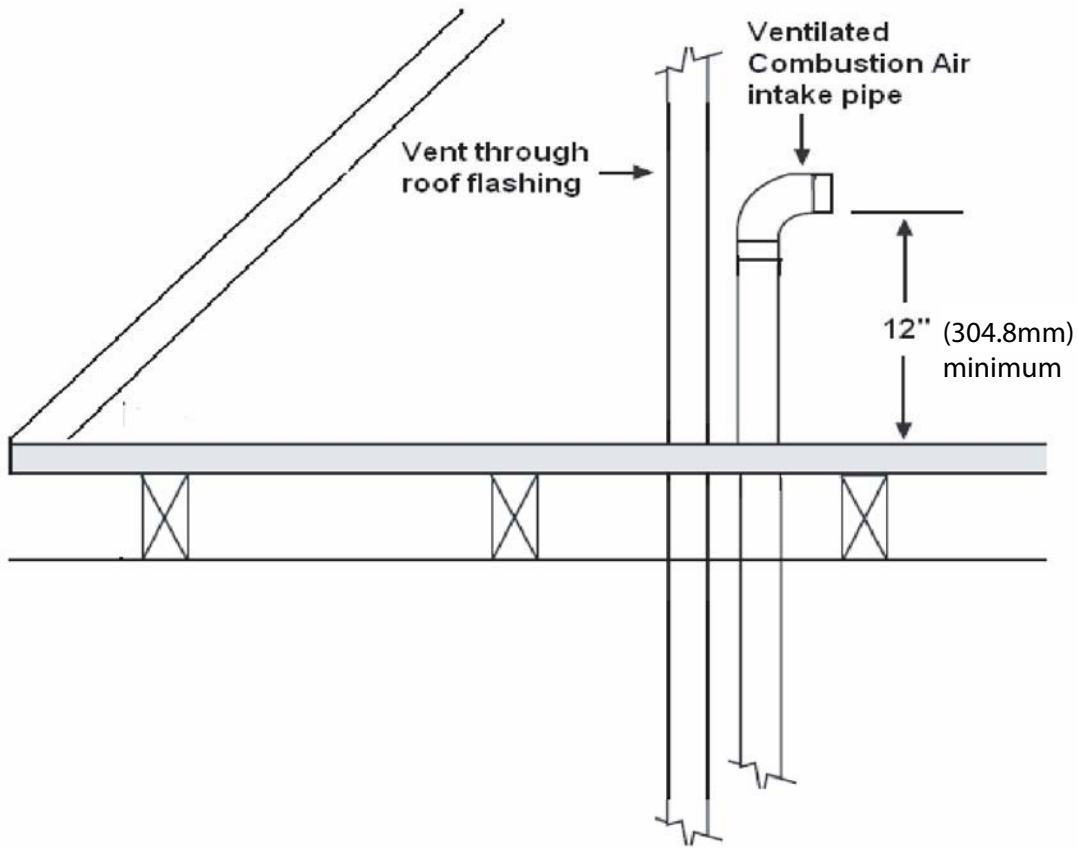

Fig. 41 - Attic Termination
Attic terminations require at least (1) 90 degree elbow, with the open end pointing horizontally or downward. The open end of the elbow must be at least 12-in. (304.8mm) above any insulation or other materials. Screen the elbow with a wire mesh screen no smaller than 3/8-inch square. (See Fig. 41.)